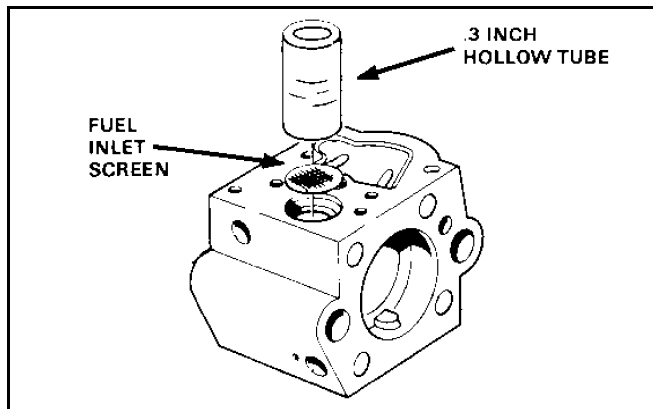

Figure 210
1. Install the fuel inlet screen with a .300 inch diameter hollow tube. Ensure that the screen is properly seated (Figure 210).